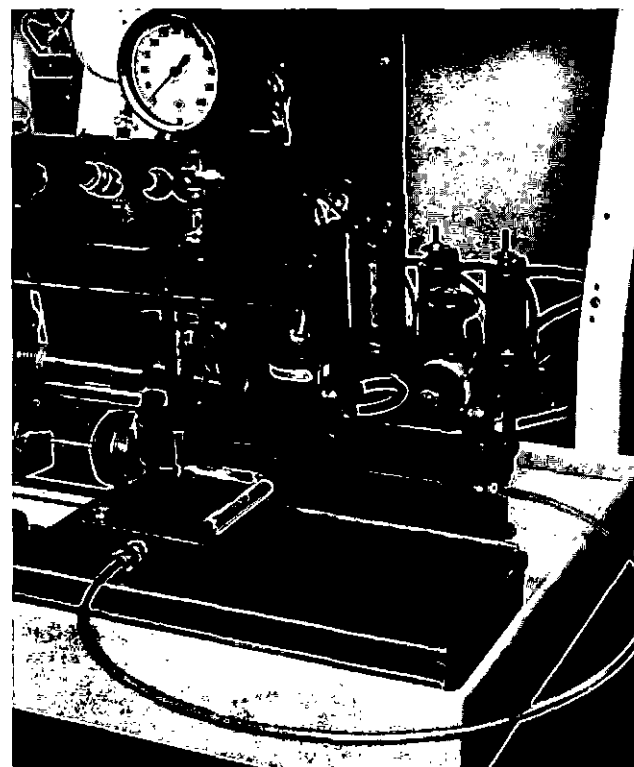

Fig. 4-28. The 3375450 Dead Weight Tester is connected to the end plate
2. Place the 11.5 psi [79 kPa] dead weight and stem into the barrel in the center of the baseplate, Fig. 4-28.